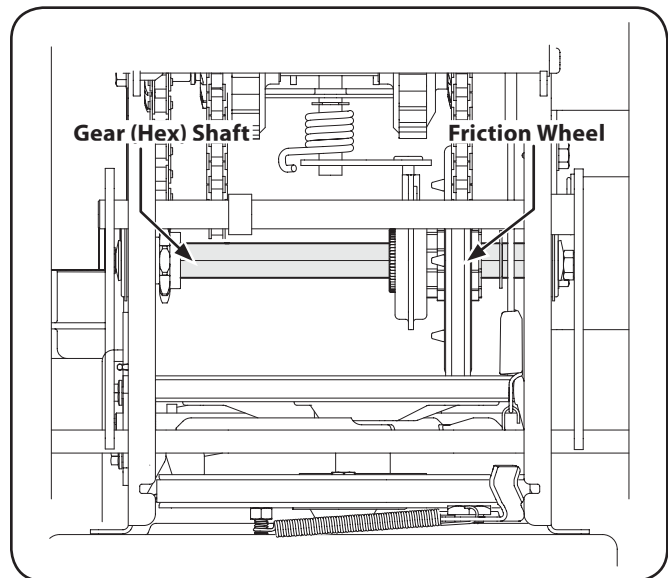

Figure 6-3
3. Apply a light coating of engine oil (or 3-in-1 oil) to the hex shaft. See Fig. 6-3.